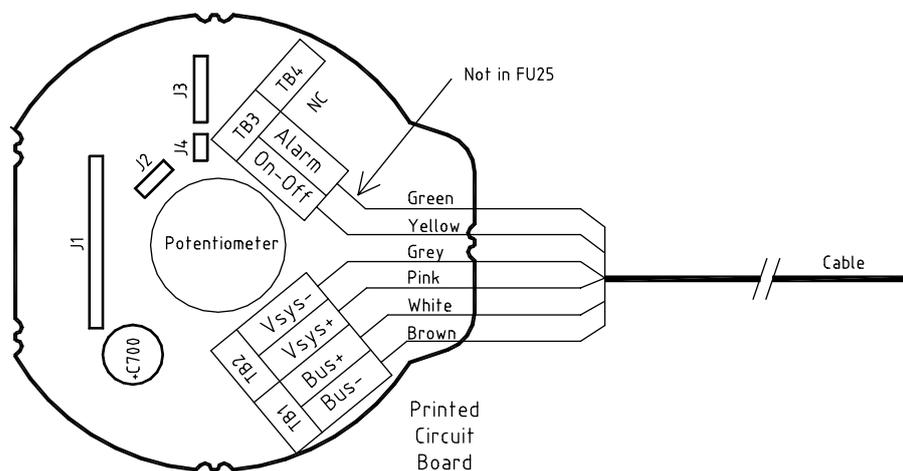

Figure 3-4 FU25/FU50 Internal connections
To ensure that a Wheelmark autopilot system can not be switched off from the FU50 Steering Lever (required in a Wheelmark installation), the TB3 terminal block with on/off wires (green/yellow) has to be moved to the not connected (NC) terminal or not connected in the J50 Junction Unit. See Figure 3-4
The unit is opened by removing the four screws on the back cover. Inside are a potentiometer and a printed circuit board with plug-in terminals. Internal wire connection is shown on Figure 3-4.